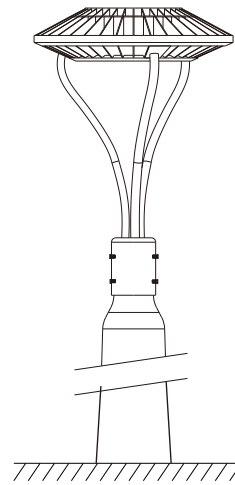

Figure 5
5. The lever arm is inserted into the pole and the screw is fastened (Figure 5)